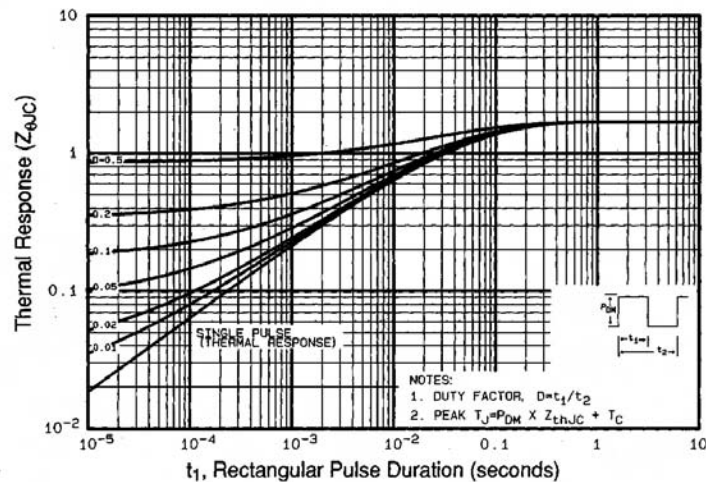

Fig 11. Maximum Effective Transient Thermal Impedance, Junction-to-Case
① Repetitive rating; pulse width limited by max. junction temperature (See Figure 11)
③ $I_{SD} \leq 5.5A$, $di/dt \leq 90A/\mu s$, $V_{DD} \leq V_{(BR)DSS}$, $T_J \leq 150^\circ\text{C}$